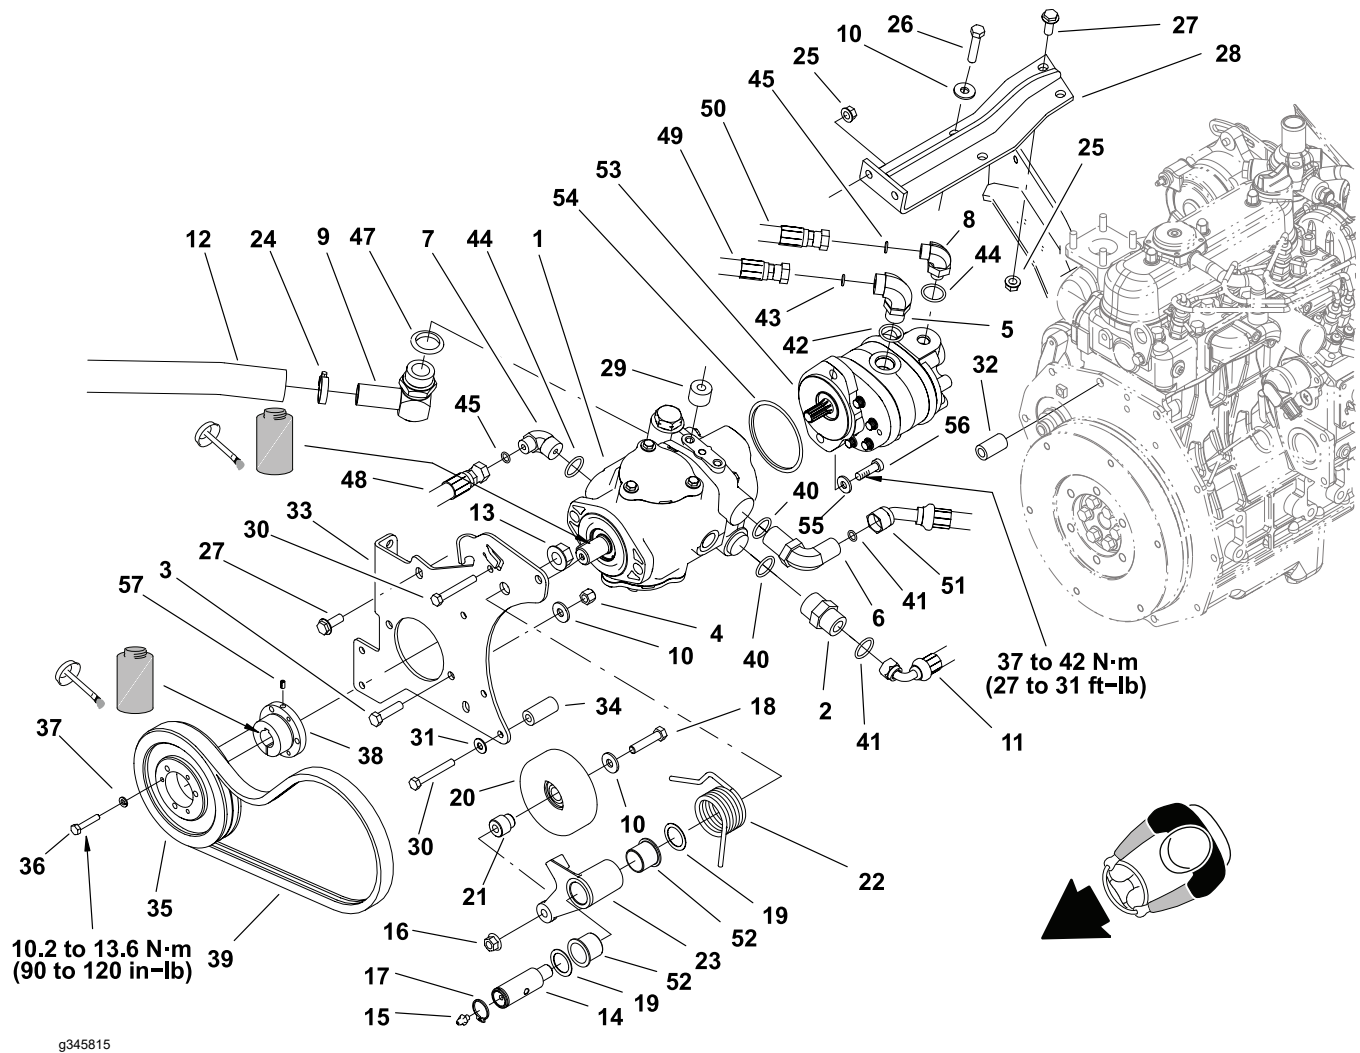

Figure 68
11. Remove fasteners and spacers securing the pump mount plate to the engine (Figure 68). Record location of cap screws, washers and spacers for assembly purposes.
7. Position pump assembly to the machine. Install fasteners and spacers securing the pump mount plate to the engine and pump support (Figure 68). Tighten fasteners securely.